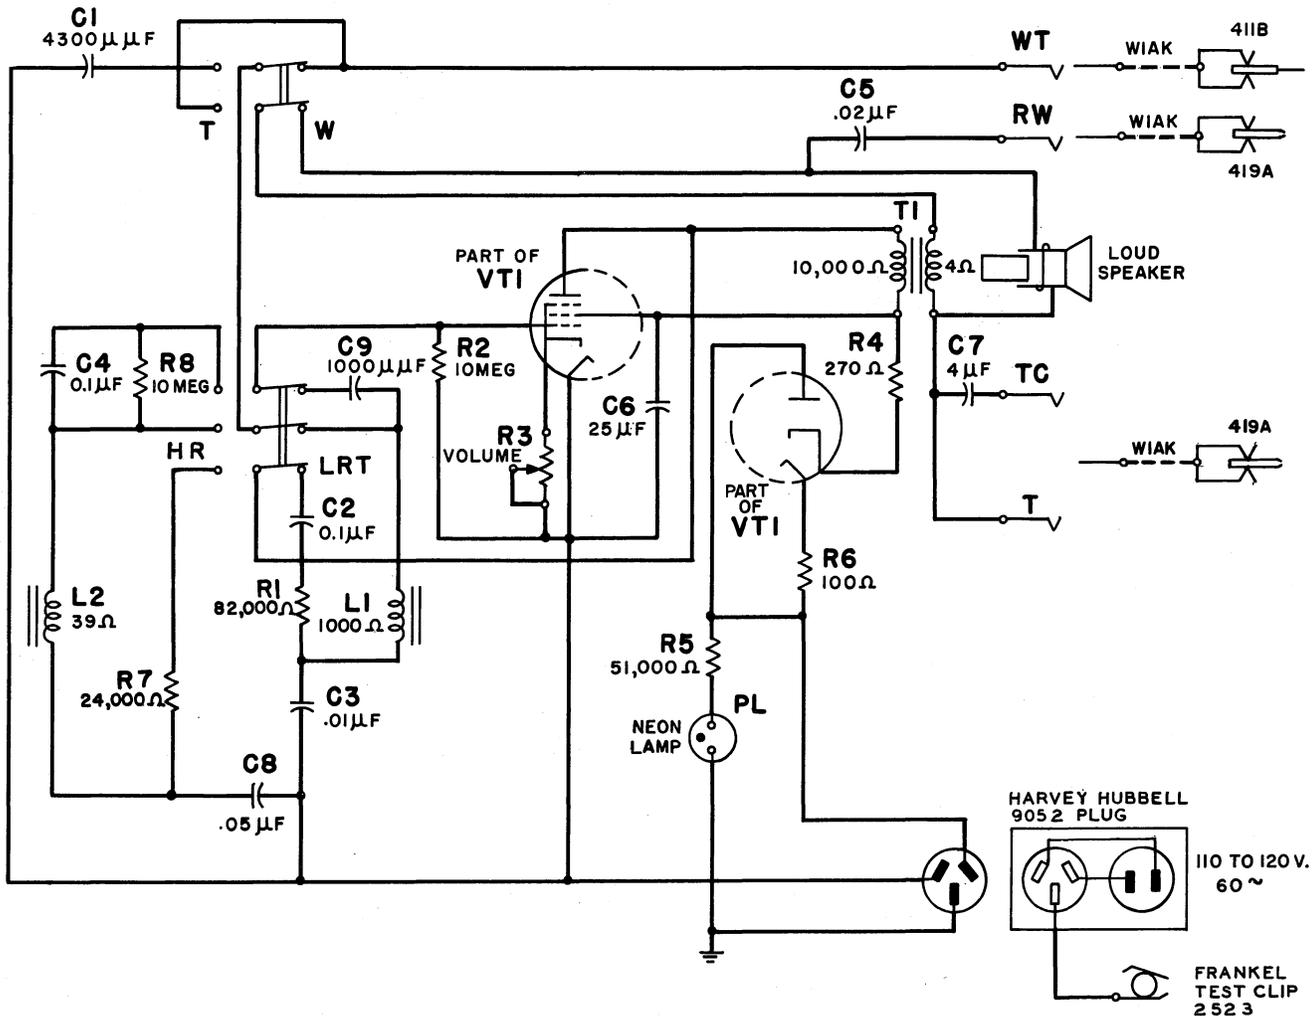
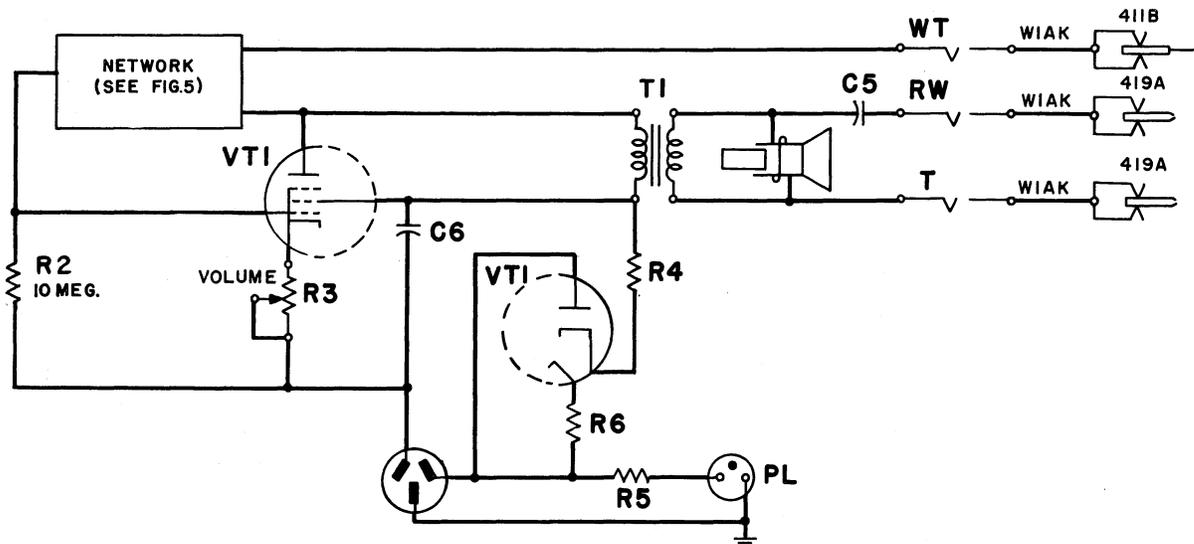

Fig. 5 — Oscillator Circuit
Fig. 6 - Oscillator Circuit Arranged for Integrity Check
3.01 Fig. 5 is a schematic of the oscillator circuit, showing the features presented in simplified form in Figs. 6 and 7.
3.02 Fig. 6 shows in simplified form the arrangement of the oscillator for checking the integrity of leads having nominally the same capacity to ground and which are, therefore, normally free from battery or ground.